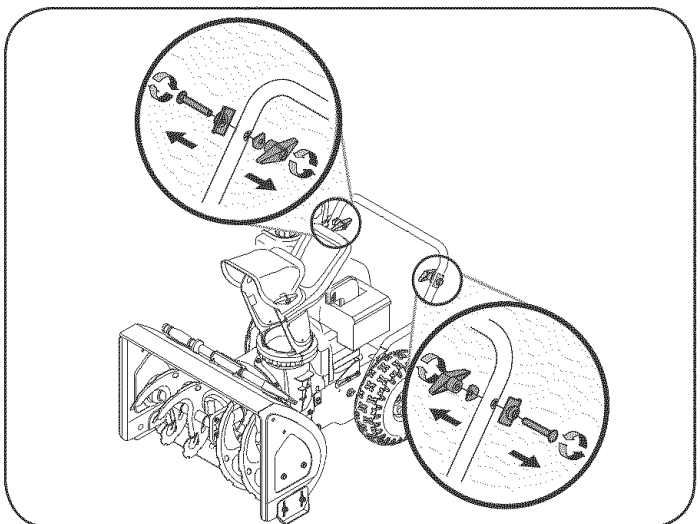

Figure 2
2. Loosen and remove the wing knob, saddle washer, handle tab and carriage screw on each side of the lower handle. See Figure 2.